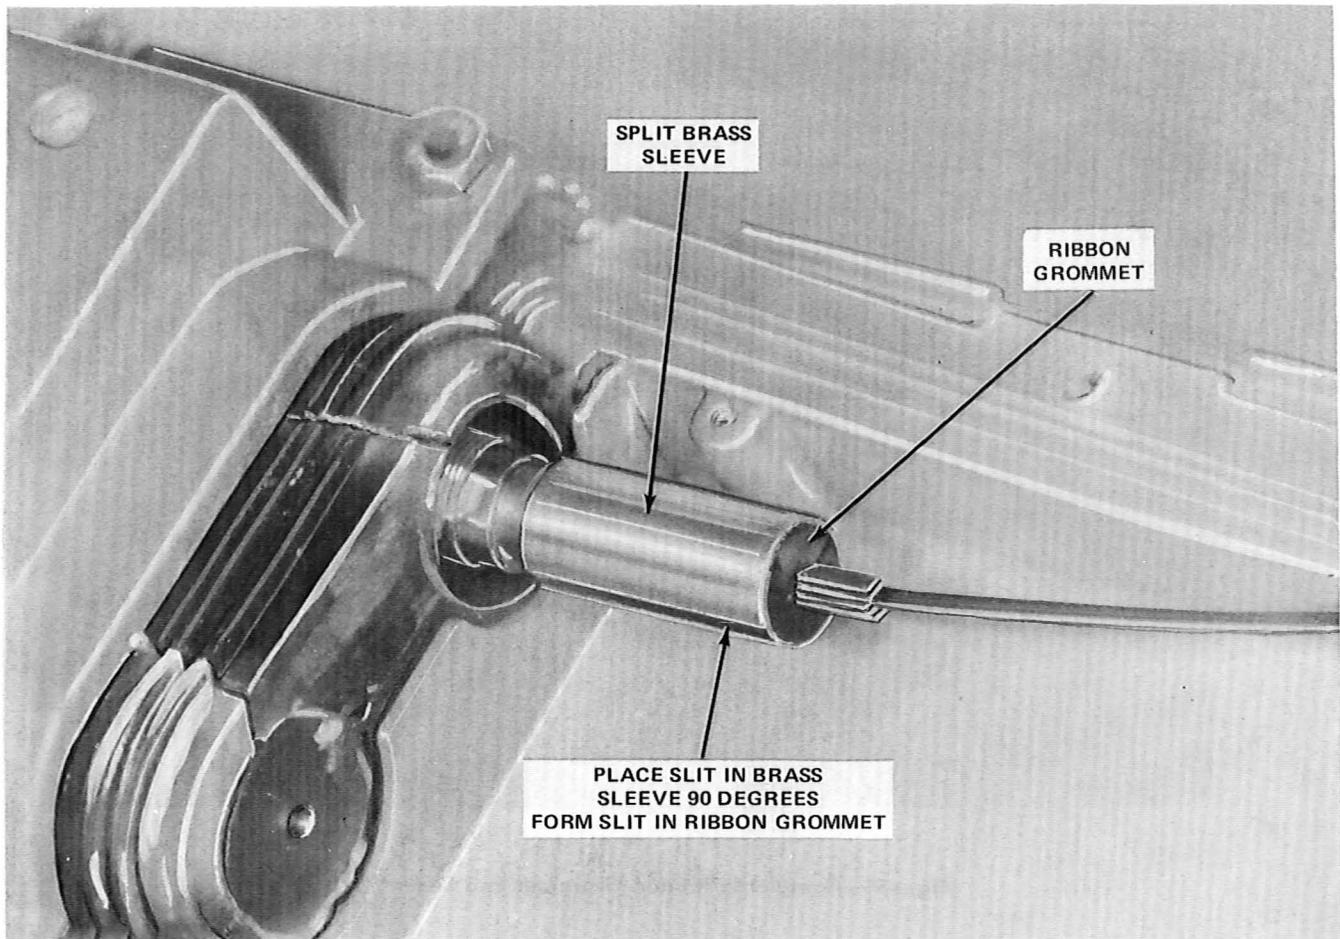

Fig. 48—Installing Split Brass Sleeve
7.07 Slide the split brass sleeve over the ribbon grommet. Keep the slits approximately 90 degrees apart, as shown in Fig. 48. Place *one* of the small hose clamps over the split brass sleeve and tighten until the slit *begins* to close. *Do not overtighten*. Place the other small hose clamp over the split brass sleeve and alternately tighten both clamps until the slit is closed. A completed ribbon grommet end seal is illustrated in Fig. 49.